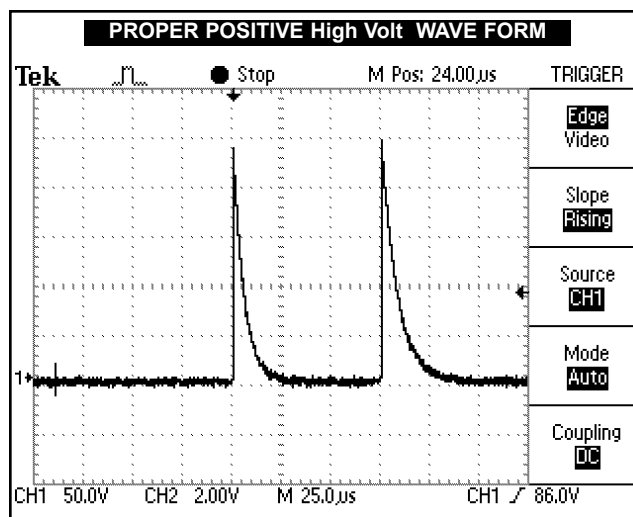

FIGURE 5.17
8. Compare wave form on scope to Figure 5.17.
11. Press "Polarity". "Positive" should display in red in "Polarity" icon. Compare wave form to Figure 5.17.
1. Wave forms on scope the same as Figures 5.17 and 5.18 and Amps do not exceed 1.5.